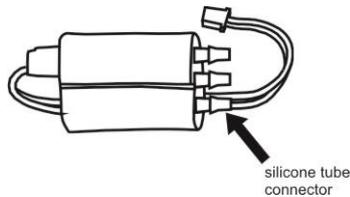

Fig. 17
- Only the connector shown in Fig. 17 is the right one to connect the valve with the silicon tube. Do not use the other connectors!